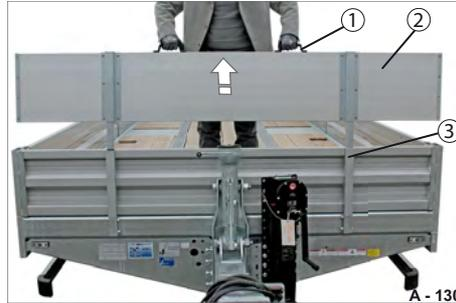

Fig. 187 Removal
▶ Pull the spring pin bolts (Fig. 187/1) out of the posts (Fig. 187/2).
▶ Carefully pull the platform gate attachment (Fig. 187/2) by the handles (Fig. 187/1) out of the posts (Fig. 187/3).